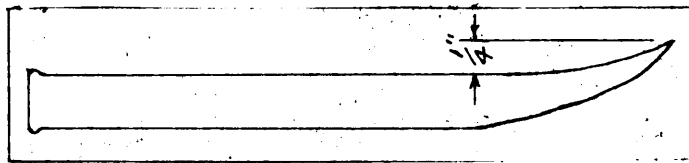

Figure 5.
2. Place about  $\frac{1}{4}$ " bend in point. (Figure 5).